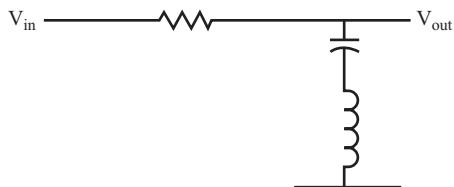
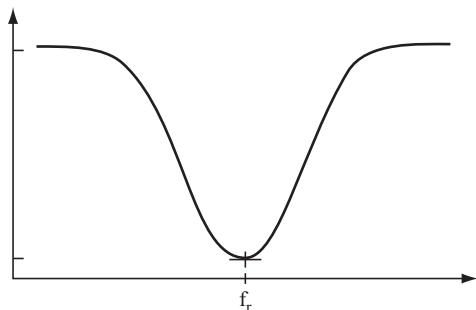
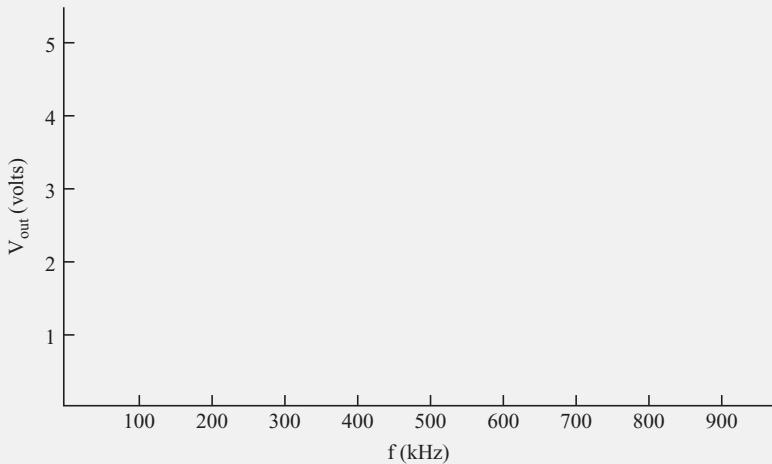

FIGURE 7.5
FIGURE 7.6
FIGURE 7.8
- 9** For the RLC circuit shown in Figure 7.5, the output voltage is the voltage drop across the capacitor and inductor.
If V_{out} is plotted on a graph against the frequency for the circuit shown in Figure 7.5, the curve looks like that shown in Figure 7.6.
The output voltage drops to its minimum value at the resonant frequency for the circuit, which you can calculate with the formula provided in problem 6. At the resonant frequency, the net reactance of the inductor and capacitor in series is at a minimum. Therefore, there is little voltage drop across the inductor and capacitor, and the output voltage is at its minimum value. A circuit with this type of output (such as the circuit shown in Figure 7.5) is called a *notch filter*, or *band-reject filter*.
8. In the blank graph shown in Figure 7.8, plot V_{out} vs f_{in} with the voltage on the vertical axis and the frequency on the X axis. The curve should have the same shape as the curve shown in Figure 7.6.